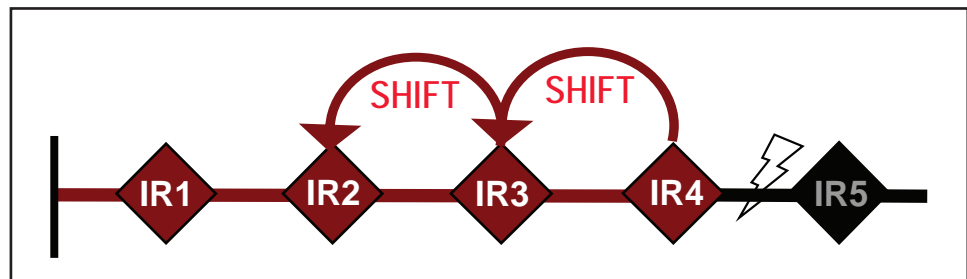

Figure 24. CEC permanent fault; IR3 and IR4 detect the fault and send a curve-shift message.
- IntelliRupter fault interrupters IR3 and IR4 detect the fault and send curve-shift messages to their source-side neighbors. See Figure 24 on page 44.